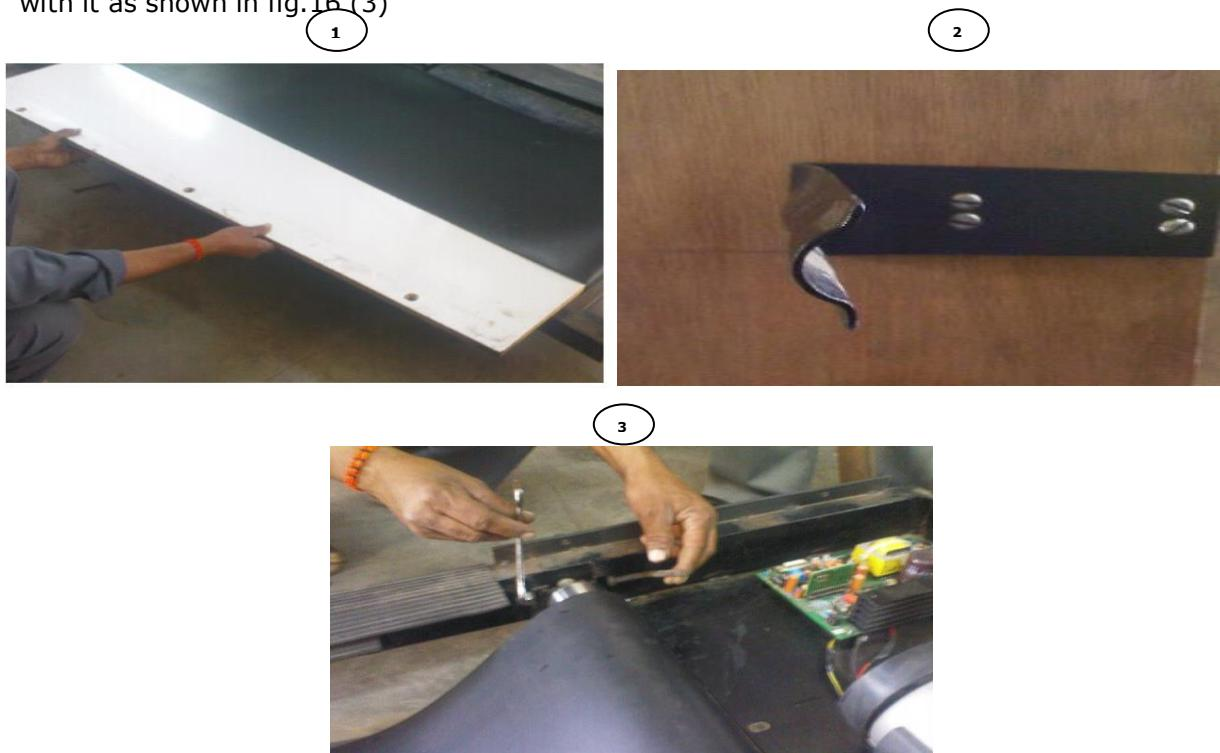

Fig.16
h) First remove wooden board from treadmill as shown in fig.16 (1)
Precaution: On back side of wooden board there are two rod to hold the conveyor belt to its correct position as shown in fig. 16(2). While removing wooden board hold it properly as its back side rod can damage conveyor belt which is in between these two rods
i) Then remove M10X100mm full thread Allen bolt by removing M10 nut attached with it as shown in fig.16 (3)